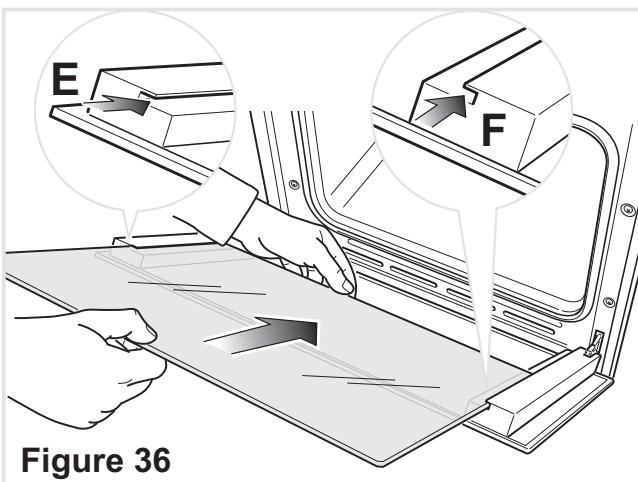
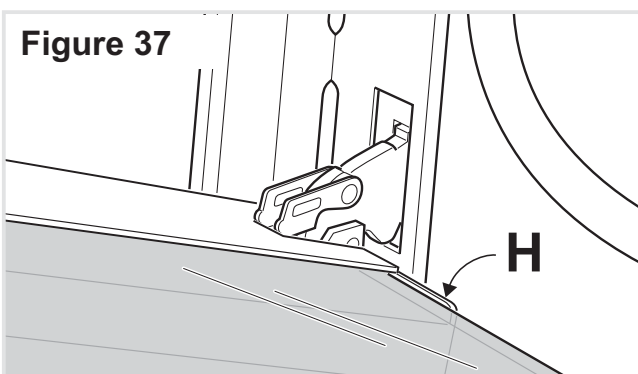

Figure 36
Figure 37
- Insert the pane in the left "E" and right "F" slide guides (fig. 36), and gently slide it to the retainers "H" (fig. 37).